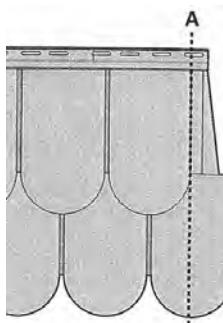

Fig.10
- a. Cut the first Panel at "A" ( See Figure 10).